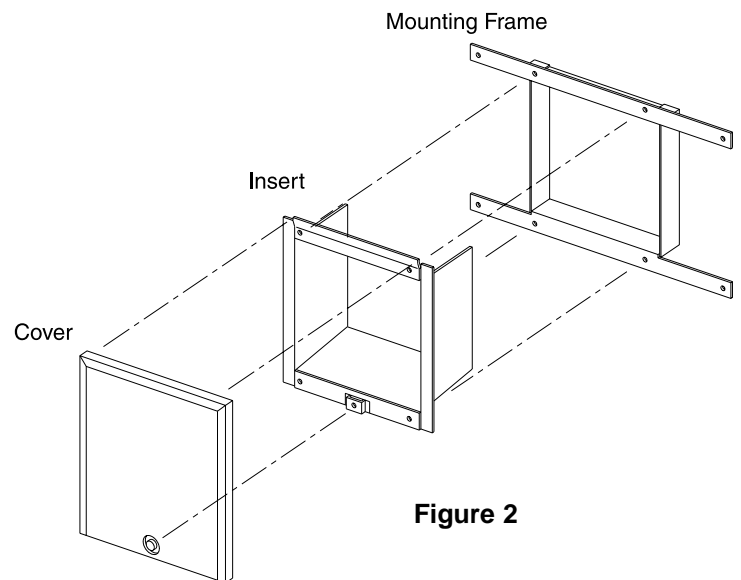

Figure 2
5. HECC Insert Installation (ref. to Figure 2)